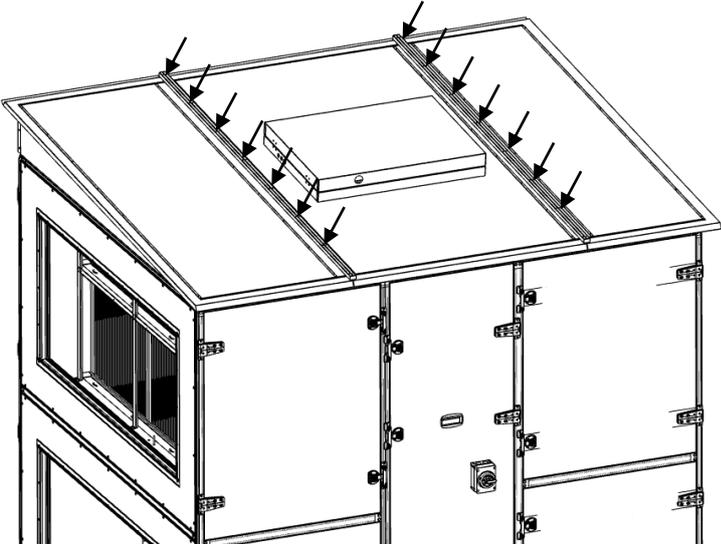

Fig. 134
9. Place weather roof sealing pieces on the assembly, and screw in the holes that as shown (Fig. 134)